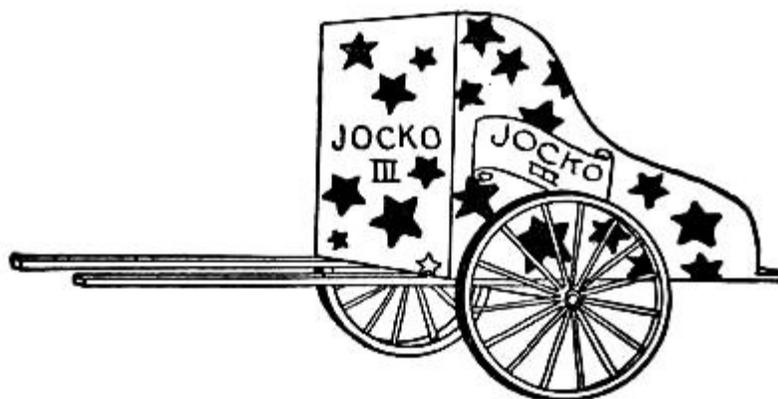

FIG. 286.—Jocko's Chariot.
**A Chariot** within which to ride around the ring. This can be made out of a soap-box, as shown in Fig. 286. Cut down the sides, as in the illustration, attach two shafts to the bottom, and mount it upon a couple of small wagon wheels. When this has been done paint the wood a bright red, and cut stars of different sizes out of gilt paper and glue them all over the outside.